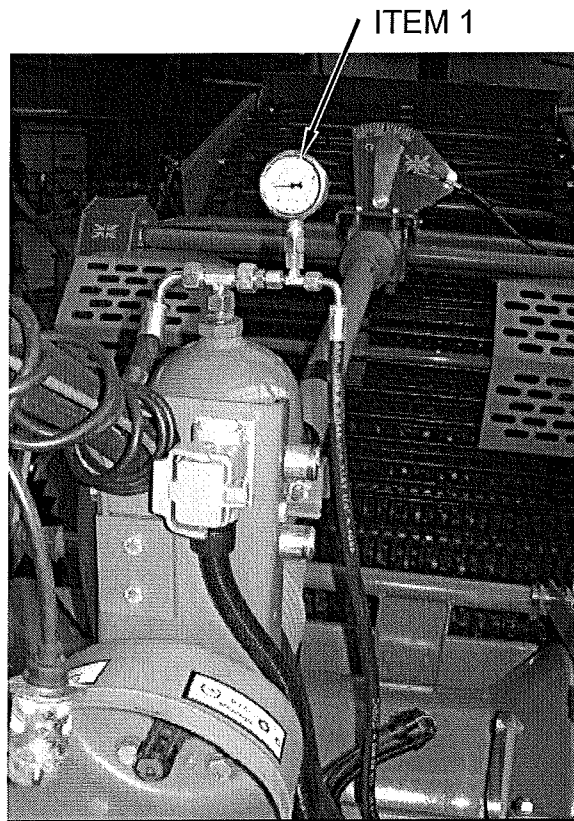

Fig 10.11
Closely watch the pressure gauge fitted on to the hydraulic accumulator (Fig 10.11 item 1), which is mounted above the PTO input drive at the front of the machine. When the pressure reaches 65 bar IMMEDIATELY close the lock valve on the hydraulic valve bank. The drawbar is now pressurised and operational.